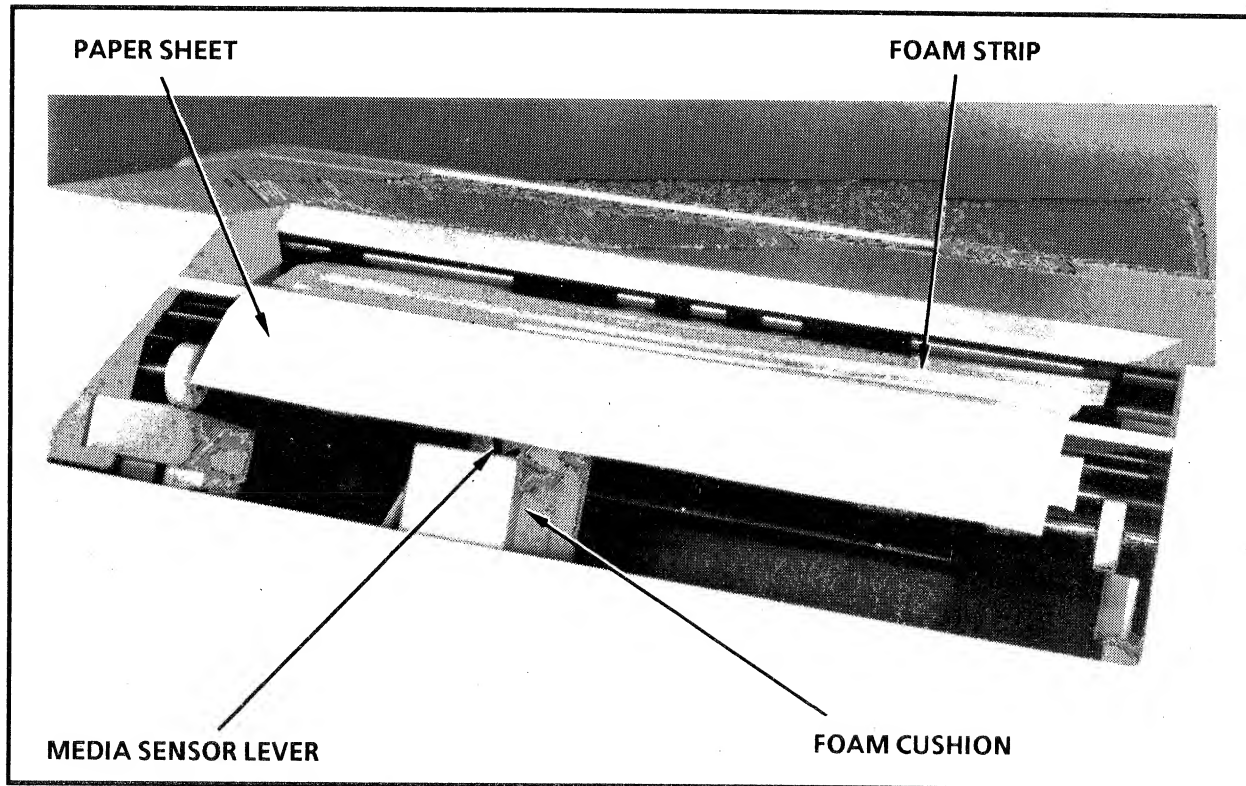

Figure 2-5. Freeing the Media Sensor Lever
12. Slide out the foam cushion from beneath the media sensor lever, located inside the media cassette slot at the top of the plotter as shown in Figure 2-5.
13. Slowly pull the paper sheet and foam strip through the eject rollers at the top of the plotter (Figure 2-5).
- Secure the media sensor lever with packing foam or a similar material. Refer to Figure 2-5.